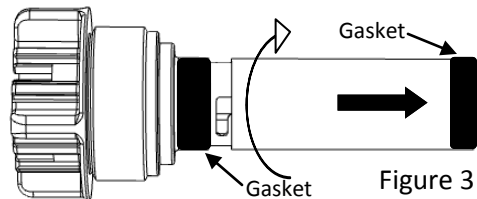

Figure 3
8. Disconnect the bypass plug from cap by first twisting to unlock the plug and pull away from cap. (There will be a gasket between the cap and bypass plug as well as a gasket at the end of the bypass plug) (Figure 3)